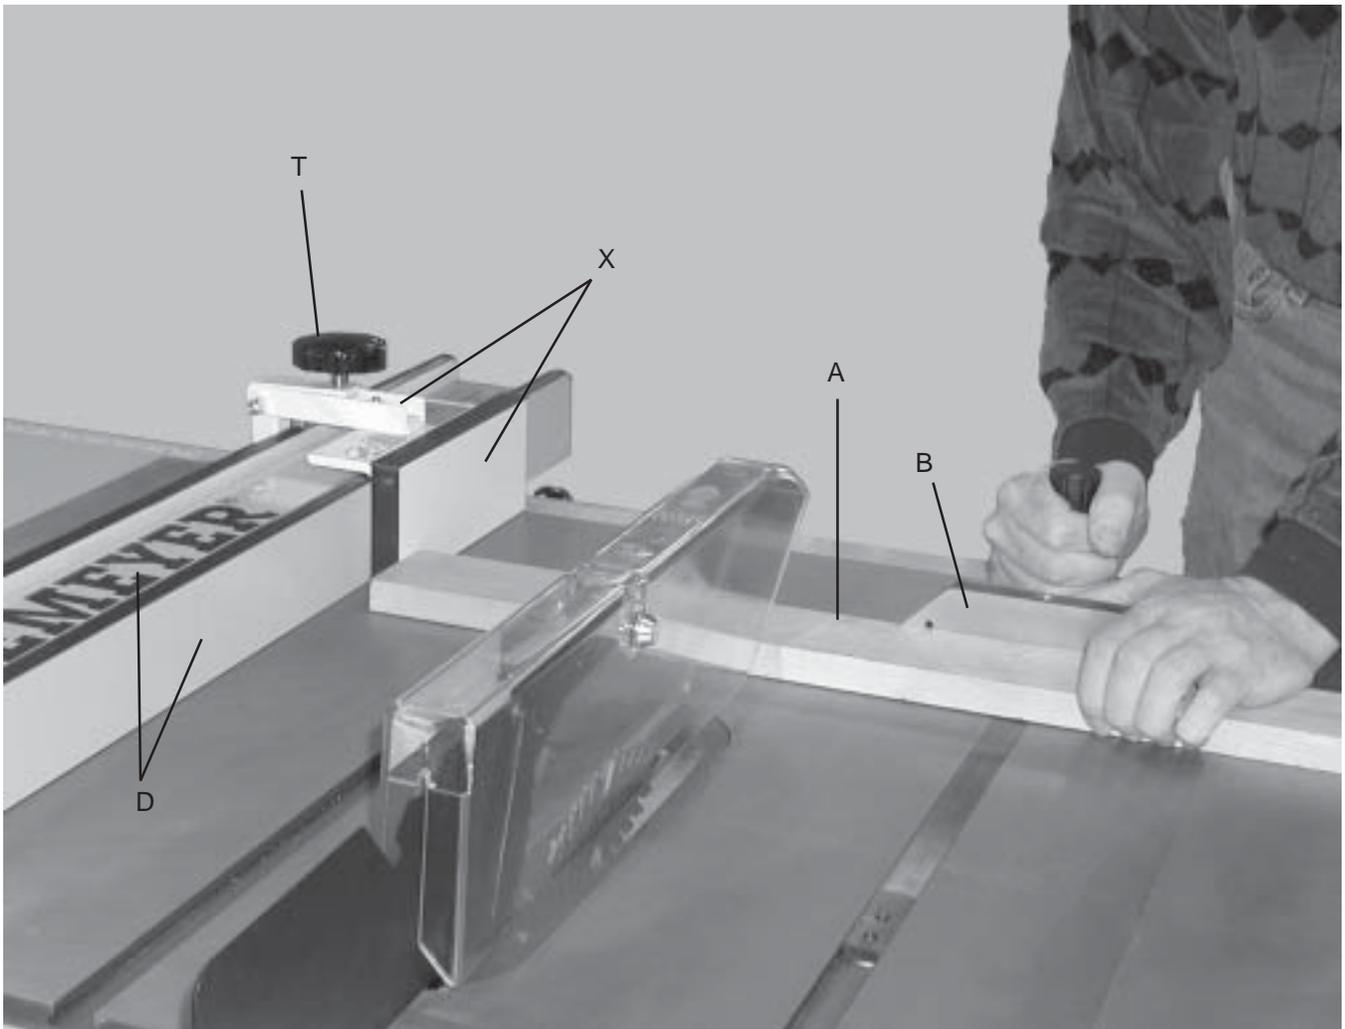

Fig. 10
1. Place entire cut-off fence (X) Fig. 10, so it straddles saw fence (D), and is positioned close to the front edge of saw table as shown. Then tighten knob (T).
WARNING: ALWAYS POSITION CUT-OFF FENCE (X) FIG. 10, IN FRONT OF THE SAW BLADE SO THE WORKPIECE CANNOT BE TRAPPED BETWEEN SAW FENCE AND SAW BLADE TO AVOID KICKBACK. THE PIECE OF MATERIAL BEING CUT MUST BE PAST THE CUT-OFF FENCE (X) BEFORE CONTACTING THE SAW BLADE.
2. Adjust and lock saw fence (D) Fig. 10, to the desired setting. **NOTE: Cut-off fence assembly (X) is 1" thick; therefore, you must add 1" when setting the saw fence to the desired cut.**
3. Place edge of material to be cut (A) Fig. 10, against face of miter gage (B) and slide material until the edge contacts cut-off fence (X) as shown.